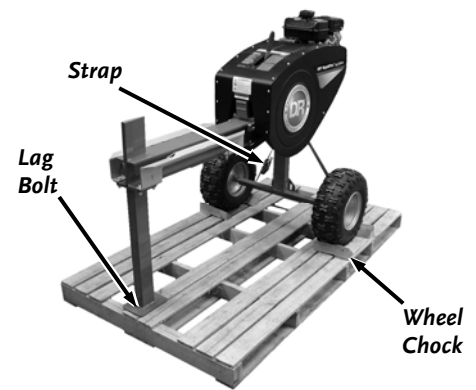

Figure 4
4. Remove the Lag bolt that secures the Front Leg to the Pallet with a 9/16" Wrench (**Figure 4**).